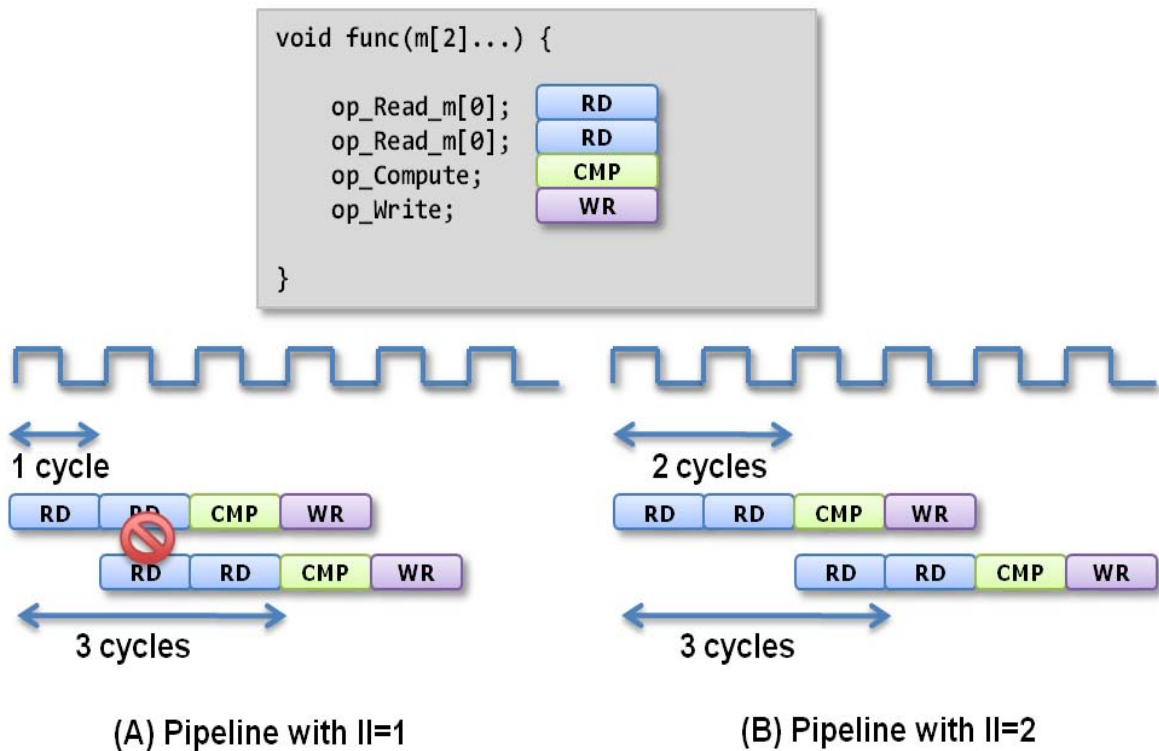

Figure 2-61: Pipeline Resource Contention
Function pipelining is only possible so long as there is no resource contention or data dependency which prevents pipelining. For example, in Figure 2-61 below, assume the input array "m[2]" is implemented with a single-port RAM. The function cannot be pipelined, as shown in Figure 2-61\(A\) because the two reads operations on input "m[2]" ("op_Read_m[0]" and "op_Read_m[1]") cannot be performed in the same clock cycle.
In Figure 2-61(A) the initiation interval is 1 because a new operation is performed every clock cycle. In Figure 2-61(B) an initiation interval of 2 is used - there is no longer any resource contention on the input port - and the function can be successfully pipelined.
Review sections "Array Optimizations" and "Controlling Hardware Resources" for more details on analyzing resource contention if pipelining fails to achieve the desired initiation interval. The resource contention problem in Figure 2-61 could also be solved by using a dual-port RAM for array "m[2]", allowing both reads to be performed in the same clock cycle.